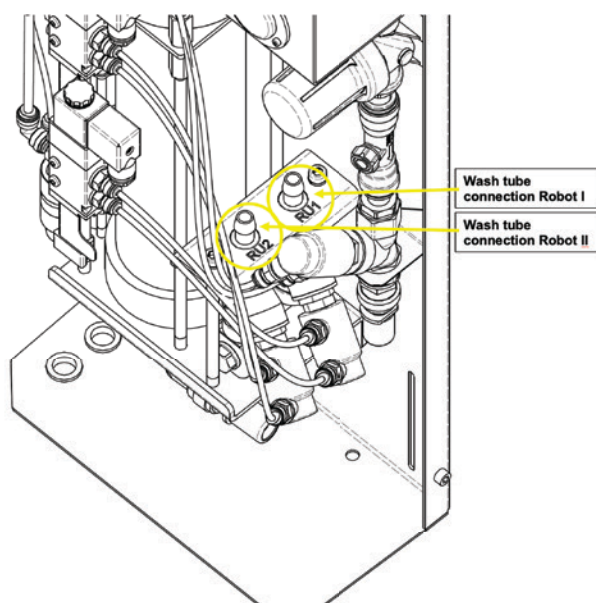

Figure 89: Wash hoses connection to valves
1. Connect spray tube to outlet valves (See figure 89 & 90)